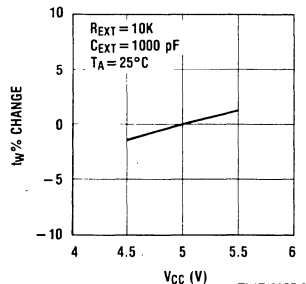
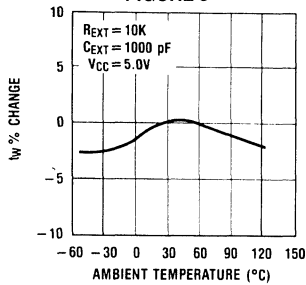

FIGURE 5
FIGURE 6
7. Output pulse width variation versus V_{CC} and operation temperatures: *Figure 5* depicts the relationship between pulse width variation versus V_{CC} ; and *Figure 6* depicts pulse width variation versus temperatures.